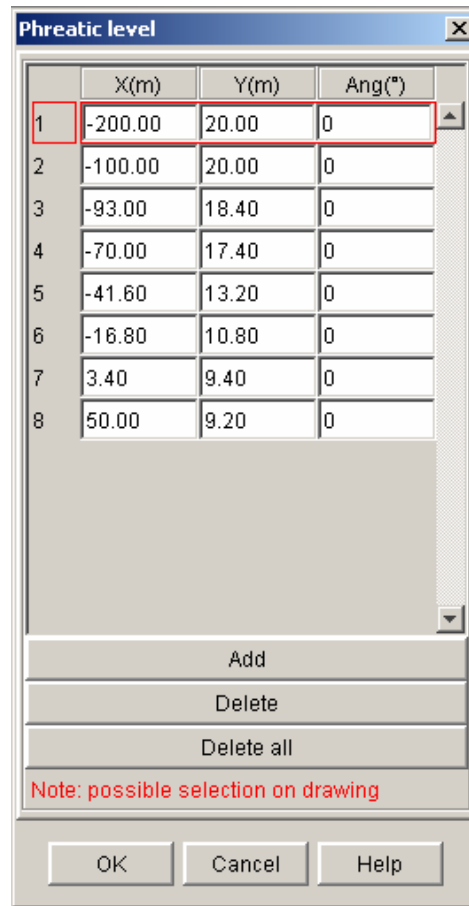

Figure 84: definition of the phreatic level
- Choose the "Phreatic level" option, then click on the button [Define phreatic level]. A dialogue box containing the table of points describing the phreatic level is displayed. Define the phreatic level either by clicking on [Add] (and then typing in the coordinates of the points defining the phreatic level), or by clicking on the position of the phreatic level points on the graphical view. The data are illustrated on Figure 84.